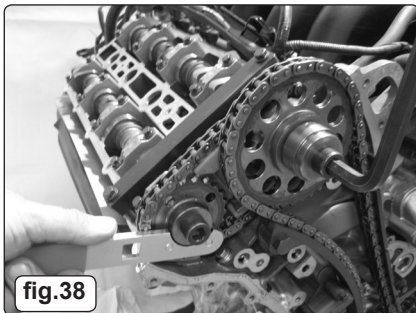

fig.38
- 4.8.4 Fit VS4984 Holding Tool and rotate and position the gears to the most advantageous position in readiness for using the Holding Tool when tightening the gear bolts (**NOTE:** once the primary chain is fitted, the camshaft gears cannot be positioned to assist Tool positioning (fig.38)).